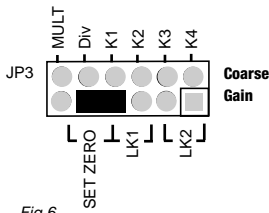

Fig 6
- To establish the LVDT null point, set any jumper on header **JP3** to the **SET ZERO** position, the other jumper may be removed or placed in the **LK2** position of header **JP3**. See Fig.6.